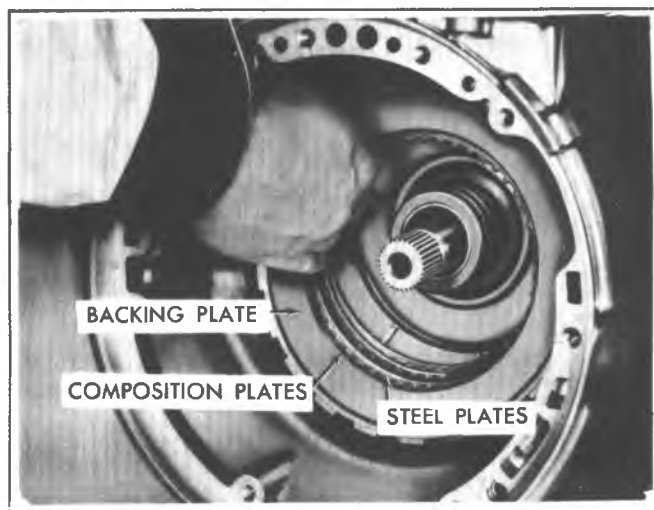

Fig. 7A-161C--Installing Intermediate Backing Plate and Clutch Plates
b. (Models CB, CD and CL) Lubricate with transmission oil three (3) flat steel and three (3) composition-faced intermediate clutch plates and install, starting with flat steel and alternating composition-faced and flat steel plates (Fig. 7A-161C).